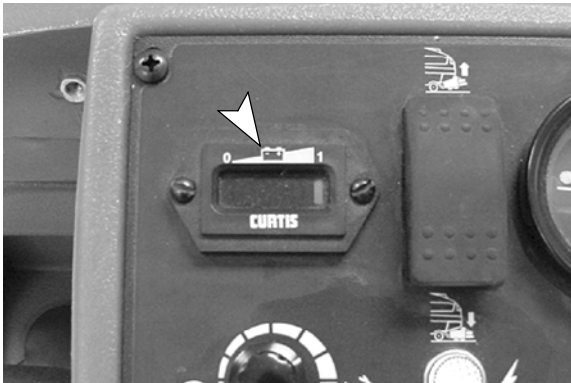

FIG. 11
6. Observe the battery meter discharge level (Figure 11). When the meter begins to flash, stop scrubbing and transport the machine to the recharging area. When two lights begin to flash alternately, the scrub head will automatically raise to the transport position. This will protect the batteries from total discharge. Recharge batteries immediately.